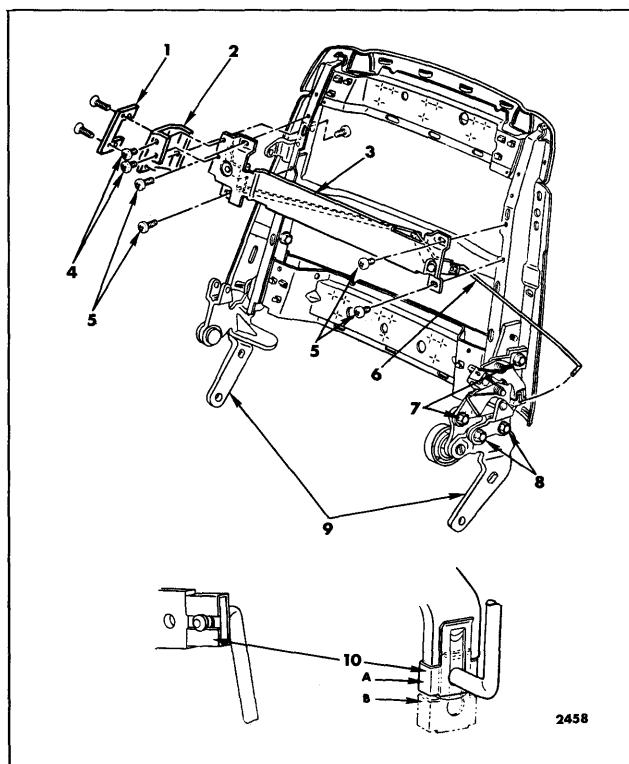

Fig. 15-42—Strato Reclining Seat Back Lock
2. At seat back inner hinge assembly remove hog rings and detach seat back trim sufficiently to gain access to seat back lock and lock striker attaching bolts (Fig. 15-42).
3. Remove seat back lock striker attaching bolts (Fig. 15-42) and remove striker.
4. Disengage clip securing lock rod to lock (Fig. 15-42) and detach rod from lock.
5. Remove lock-to-hinge attaching bolts (Fig. 15-42) and remove lock assembly from seat back hinge.
- At right side of seat back remove hog rings and detach seat back trim sufficiently to gain access to seat back lock control support (Fig. 15-42).
- Remove control support attaching screws (Fig. 15-42) and remove support.
- Disengage clip securing lock rod to control assembly (Fig. 15-42) and detach rod from control assembly.
- Remove control support and control assembly attaching screws (Fig. 15-42); then, remove control assembly from seat back.